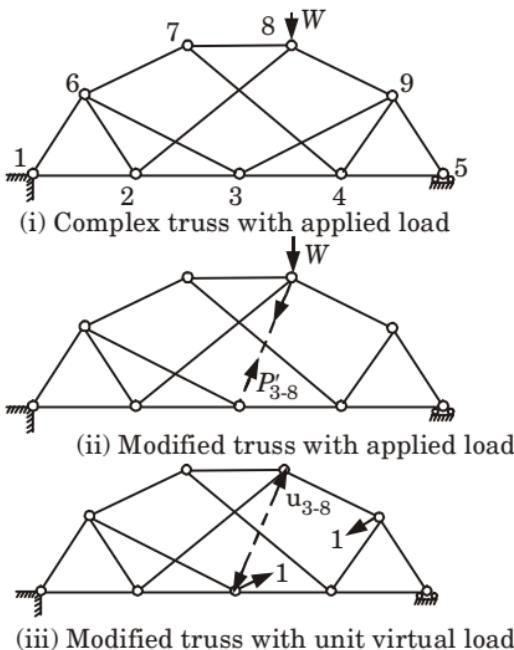

Fig. 2.12.1.
- A complex truss, as shown in Fig. 2.12.1, has three or more connecting members at a node, all with unknown member forces.
5. As shown in Fig. 2.12.1(ii), member 3-9 is removed, leaving only two unknown forces at node 9, which may be determined.
8. The applied loads are now removed, and unit virtual loads are applied to the modified truss along the line of action of the original member 3-9, as shown in Fig. 2.12.1(iii).